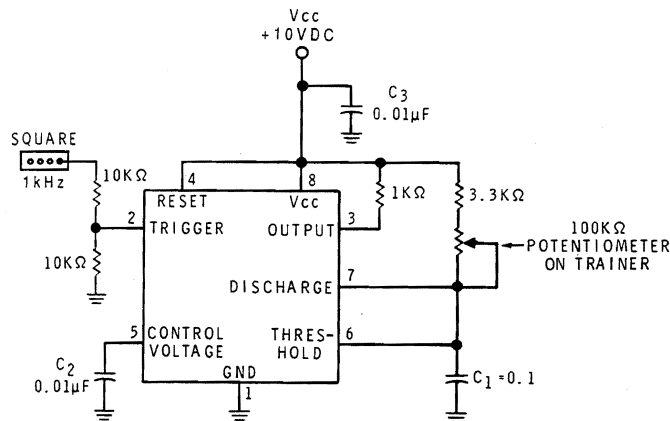

Figure 6-57
41. Construct the circuit shown in Figure 6-57.